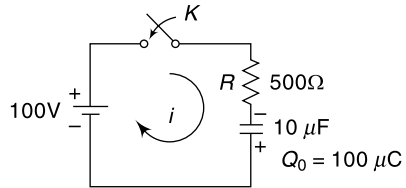

Fig. 2.51 Circuit of Ex. 2.39
2.39 The $10 \mu\text{F}$ capacitor in RC circuit of Fig. 2.51 has initial charge of $100 \mu\text{C}$ with polarities as shown in Fig. 2.51. At $t = 0$, the switch being closed, a dc voltage of 100 V is applied. Find the expression for the current.